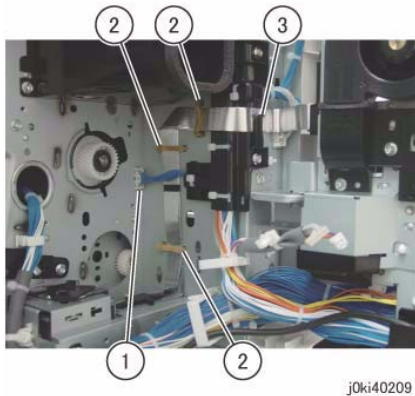

Figure 7 Release the LPH Cable
13. Release the LPH Cable. (Figure 7)